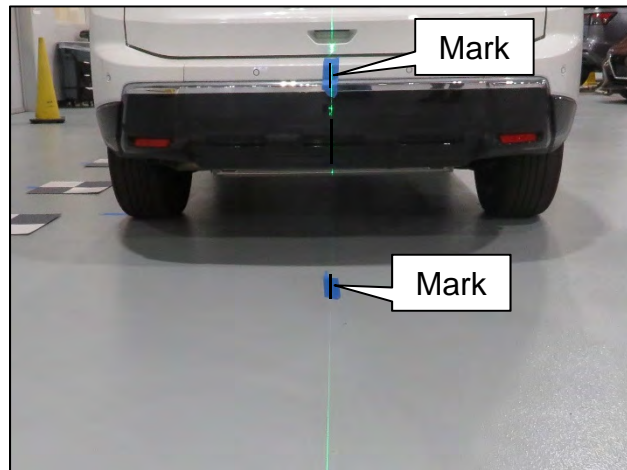

Figure 68
46. Mark the rear fascia, where shown in Figure 68, and the floor near the rear fascia.